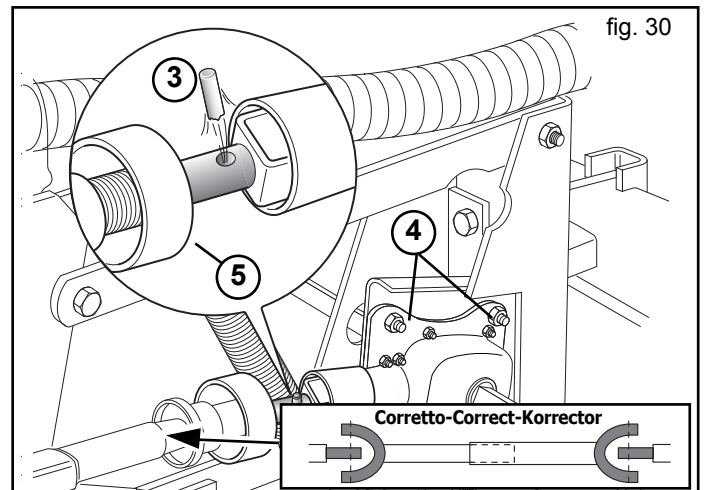

fig. 30
Each box has a safety pin (3, Fig. 30). When the rotation of the seed disc comes under strain or stops due to the entering of foreign bodies with the seeds (paper, string etc.), empty the seeds from the container, check and clean the distributor, check the disc pins and replace the safety pin.
Each transmission shaft has a torque limiter with a sound alarm (5, Fig. 30) that, when the pin breaks (3, Fig. 30), signals the anomaly or breakdown that has occurred in the distributor. If this happens, stop at once and remedy the situation; remove the broken pin and replace it (use the pin punch supplied).
**CAUTION!** Do not completely tighten the screws that hold the box (4, Fig. 30); oscillation is expected.